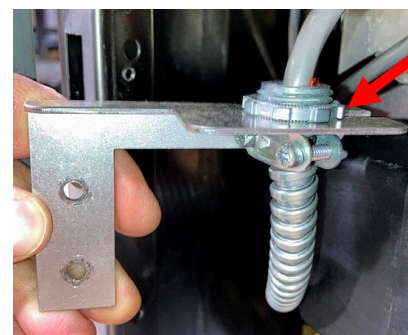

Figure 30
35. Attach the conduit bracket to the end of the basketlift conduit as shown (see Figure 30).